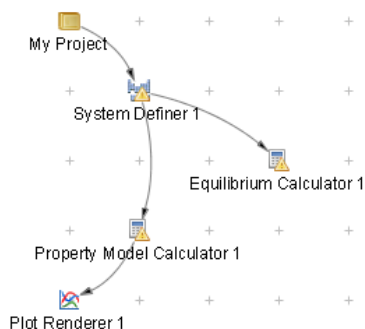

Figure 9: The project window with the grid turned on and activity nodes moved from the default location. These nodes are snapped to the grid.
- To show a grid of light-grey cross-hairs overlaid on a project (see Figure 9), click **Show Grid** in the toolbar. Click the button again to turn the grid off. Or right-click in the **Project** window and select **Show Grid**.